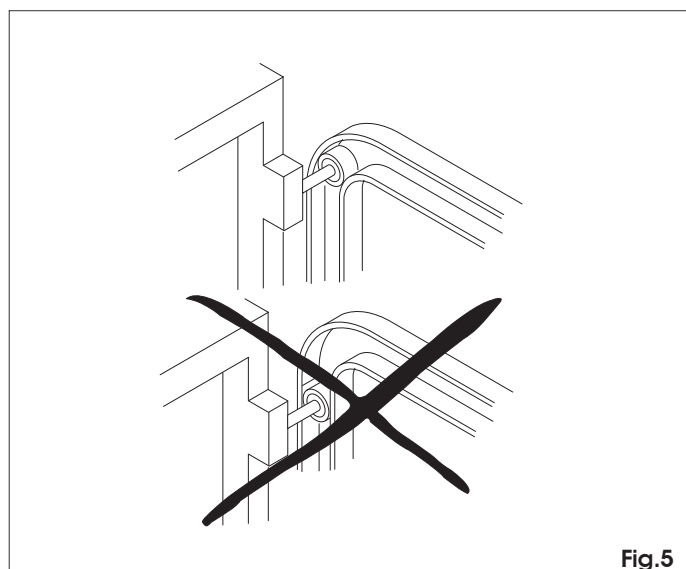

Fig.5
- Check if the upper guide roller of the sectional door is in the horizontal part of the guide while the door is closed (fig. 5).